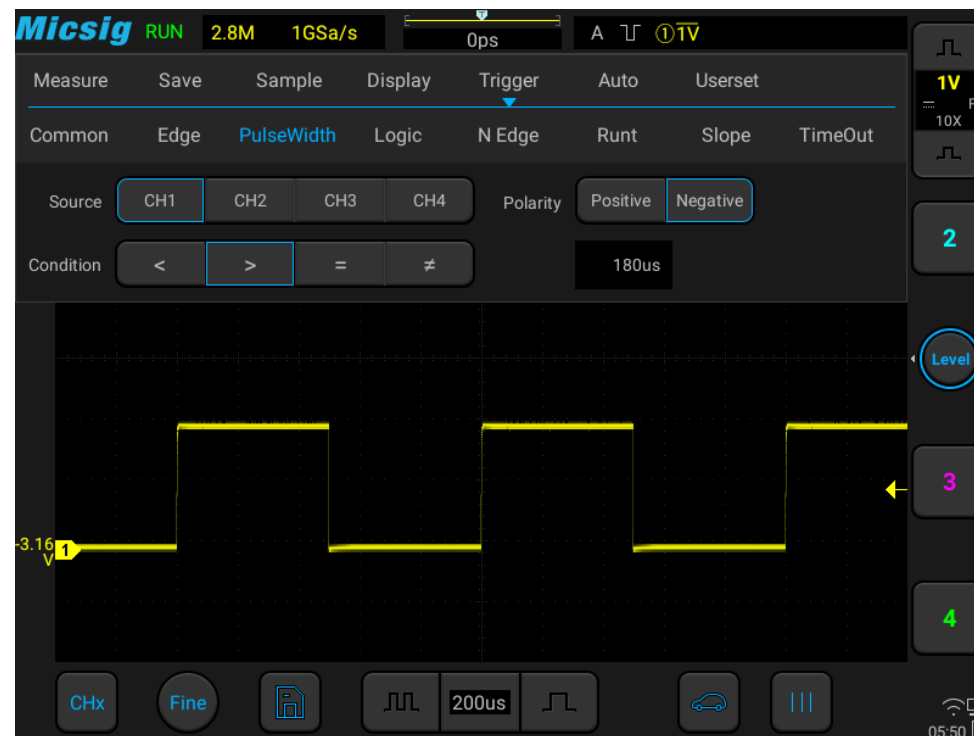

Figure 7-15 Negative Polarity Pulse Level Flip
lower than current trigger level (CH1 negative pulse indication icon  ① 1.00V). When triggered on positive polarity pulse, if the restrictions are true, the trigger will happen on the high-to-low transition of the pulse; when triggered on negative polarity pulse, if the restrictions are true, the trigger will happen on the low-to-high transition. (Figure 7-15 Negative Pulse Level Flip)